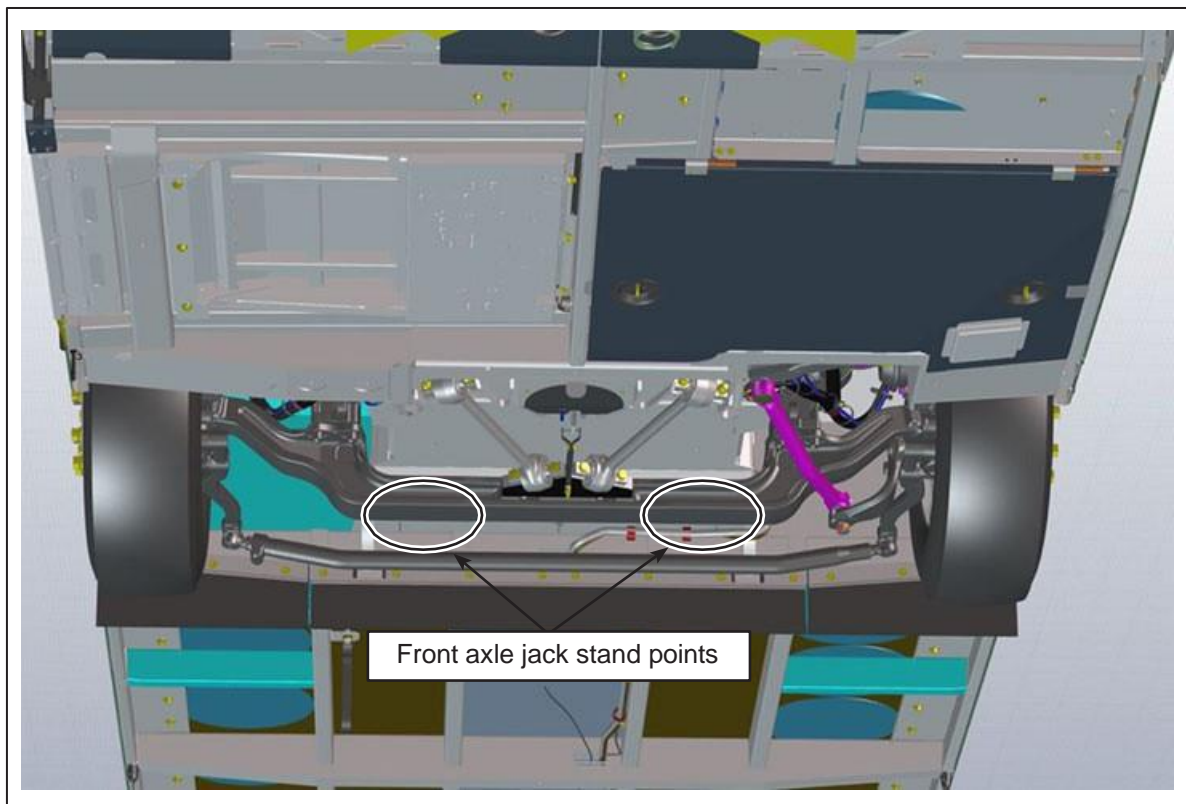

Figure 1 - Front Axle Jack Stand Points
- 1.5. Install jack stands under the front axle. See Figure 1.